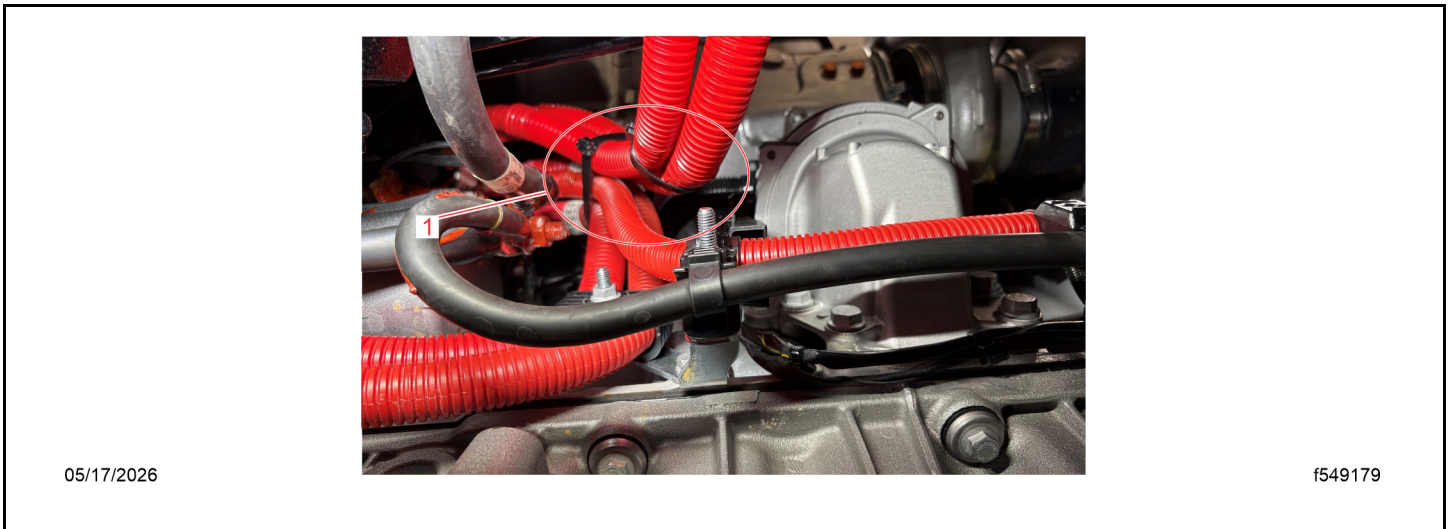

Fig 43, Securing the Cables
29. Route the starter and jump-start cables next to the other heavy positive cable(s) from the starter to the lower frame rail support bracket. See Fig. Fig. 43.